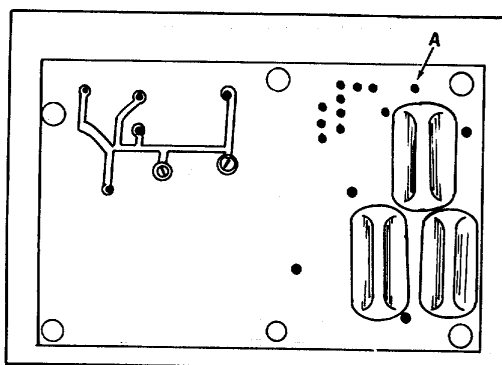

Figure 5-3. Rear View of The HV Board.
2. Discharge the possible 2 kV potential by placing a short between point A, Fig. 5-3 and ground. This point is accessible by removing the Battery Pack and turning the 1502 upside down.